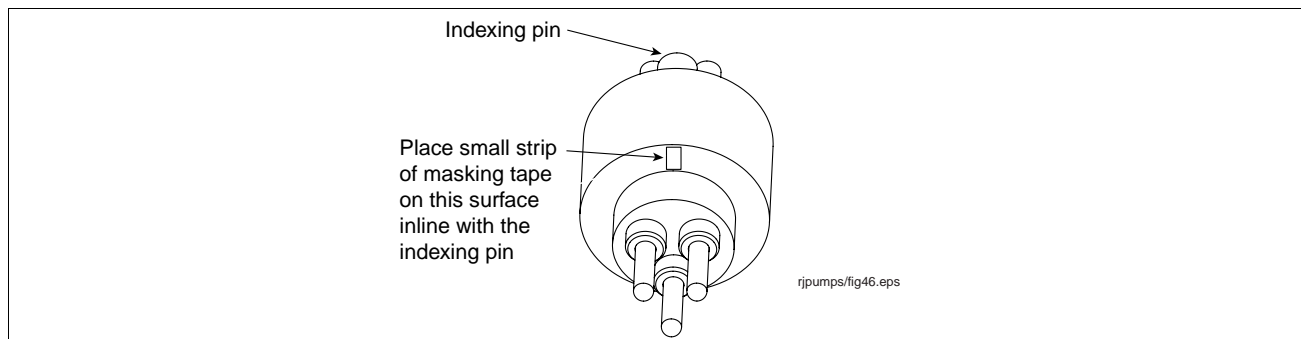

Figure 41. Placing masking tape alignment marker on front of male connector
10. Place a small piece of masking tape on the pins side of the connector inline with the indexing pin (see Figure 41).